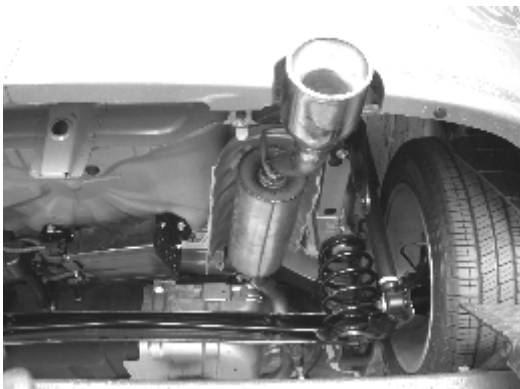

Figure 4
1. Place your new Borla Performance™ Rear Section Exhaust System into position as shown in figure 4 using a muffler stand or an additional person to hold it into place.